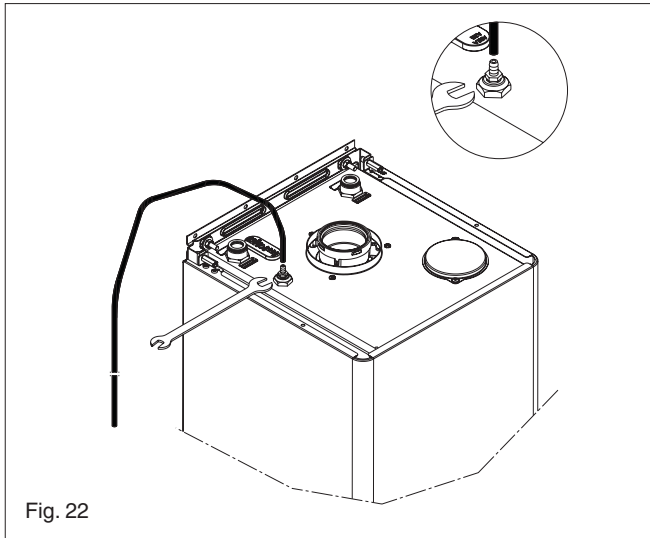

Fig. 22
5.3.1 MANUAL AIR RELEASE (Fig. 22)